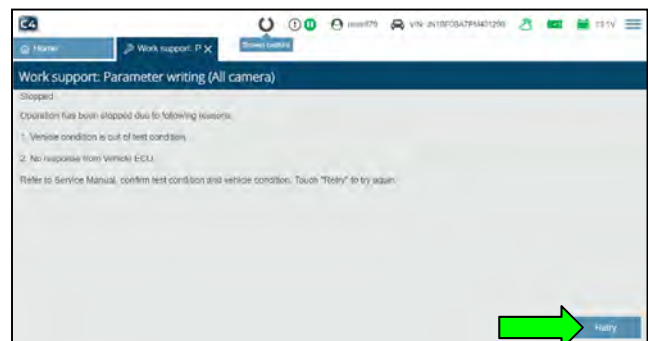

Figure 7
- If the **Parameter writing** was not successful (Figure 7):